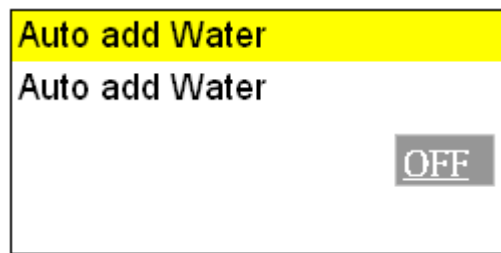

Figure 122
- B. Press  button to the editing mode as shown in Figure 122.